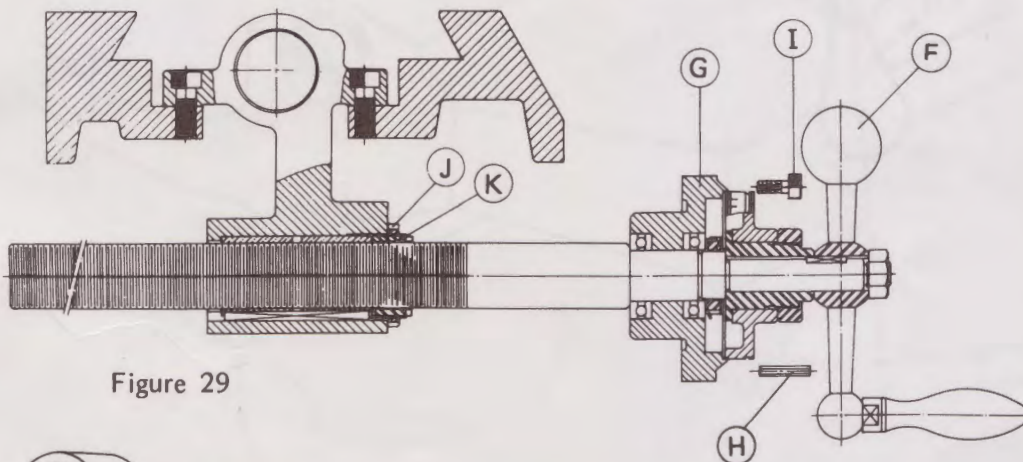
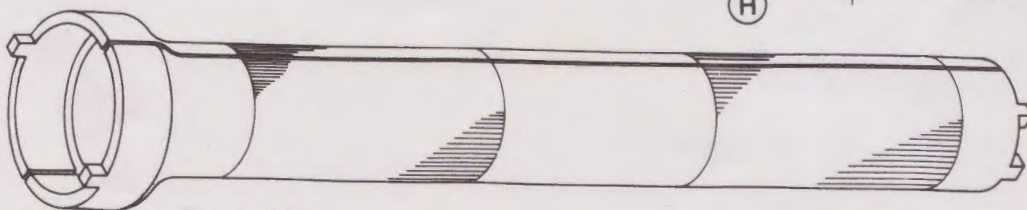

Figure 29
Figure 30
A. Adjustment of cross leadscrew (Vide Figure 29):
- a. Turn counterclockwise the crank (F) and move the saddle seat to the foremost position of knee.
- b. Remove the two setting pins (H) of the front bearing bracket (G) and take off the four socket HD cap screw (I).
- c. Support the cross feed bearing bracket (G) and turn clockwise the crank (F) so that the bracket will be separated from the knee with a certain distance between them (as shown in Figure 30, the distance must be longer than the length of the adjusting tool).
- d. Insert the larger end of clearance adjusting tool into the knee and turn the locking nut (J) one round anticlockwise. Reverse the adjusting tool and insert the smaller end into the knee. Turn the nut (K) clockwise and lock it up.
- e. Turn clockwise and anticlockwise the crank (F) and measure a clearance of approximately 3-4 graduations (0.06mm-0.08mm or 0.003"-0.004") on the dial. Lock up (J) consequently.
- f. Turning counterclockwise the leadscrew into the knee until the front bearing bracket seat gets in contact with the knee. Insert the two setting pins (H) and lock up tightly the four cap screw (I) of the bearing bracket.
- a. Loosen the lock lever (L).
- c. Use a screwdriver and adjust the gib screw (M) on both sides of saddle seat.
- d. Adjusting skill: If the turning of crank (F) (Vide Figure 30, P. 30) is sensed too loose, loosen slightly the adjusting gib screw on the right side of saddle. Then, lock up the adjusting gib screw on the left side. Turn the crank again to see if it is in good tightness. Otherwise, loosen the left adjusting gib screw and lock the right one tightly. Repeat the same motion until the work table sliding is satisfactory.